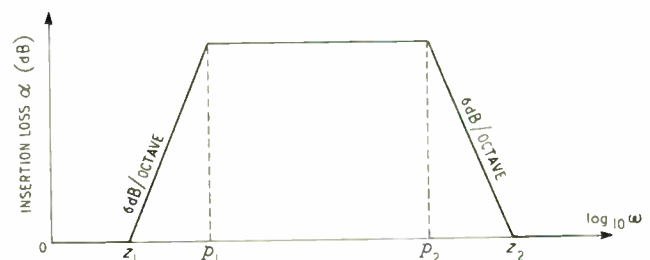

Fig. 2. Approximate straight line representation of insertion loss  $\alpha$
characteristic of Fig. 2 which is defined by the following rational function
where  $s$  is the complex frequency variable, and  $H$ ,  $z_1$ ,  $z_2$ ,  $p_1$  and  $p_2$  are positive real constants. From Fig. 2 it is noted that
However, from Fig. 2 it is noted that the insertion loss  $\alpha$  is zero at zero frequency, and so the constant  $H$  must be equal to unity. It is further observed from Fig. 2 that  $\alpha$  is also zero at infinite frequency in which case it follows from Equation (3) that the constants  $z_1$ ,  $z_2$ ,  $p_1$  and  $p_2$  must be related as follows